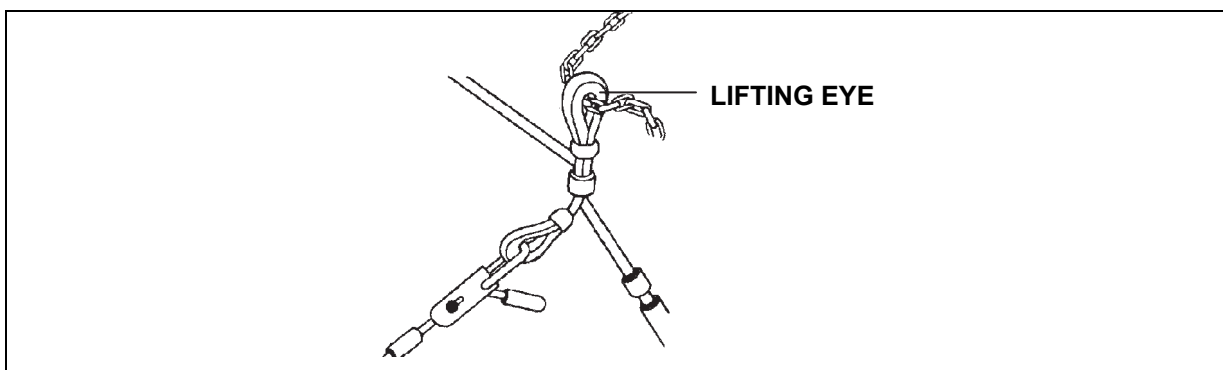

Figure 8-25. Connecting Sling Leg Lifting Eye
- Loop the chain end of a sling, such as the 10,000-pound capacity sling set, through each sling lifting eye as shown in figure 8-25.